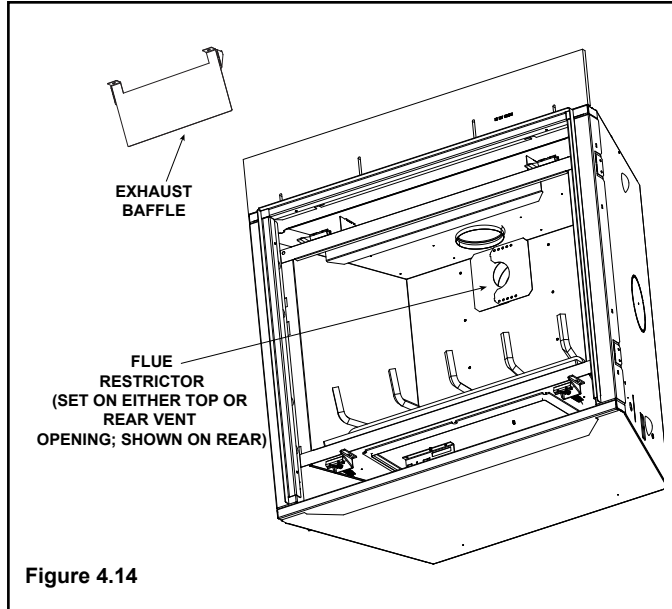

Figure 4.14
1. Remove exhaust baffle using a 1/4 inch nut driver by removing the two screws securing it in place. See Figure 4.14.
3. Center the two flue restrictor pieces on the vent at the setting selected in step 2 and secure in place by using two self-tapping screws. See Figure 4.14.